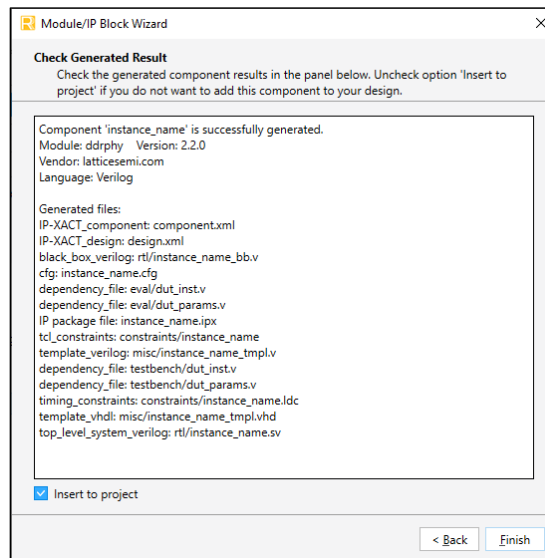

Figure 7.6. IP Generation Result
4. Click **Generate**. The **Check Generating Result** dialog box opens, showing design block messages and results as shown in Figure 7.6. Click **Finish**.